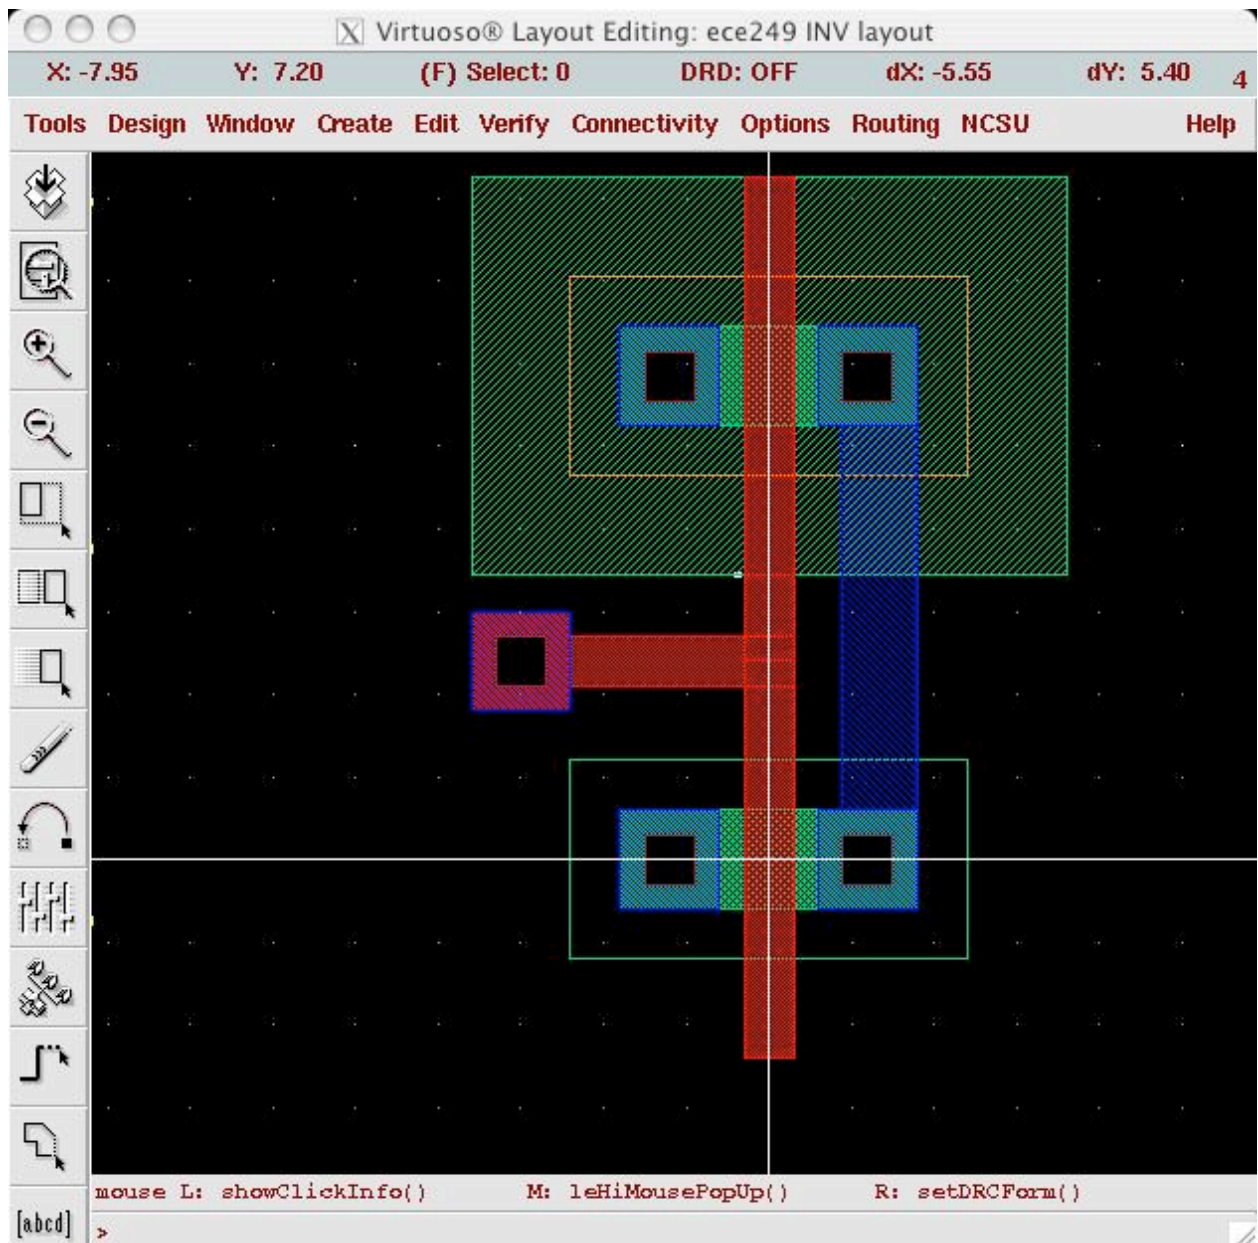

Fig. 10. Making a Metal-1 connection for the Input.
Step 12: Make a Metal-1 connection for the Input as shown in Fig. 10. Note that you must have a poly square completely surrounding the contact by 0.3um.